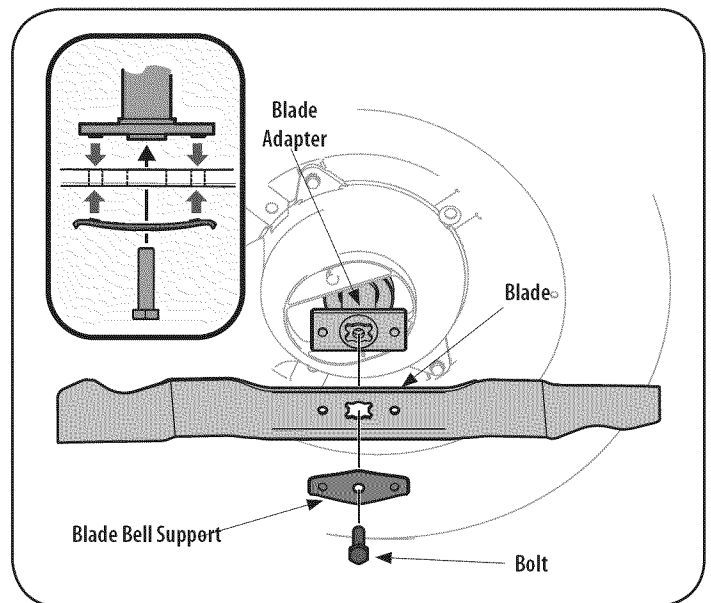

Figure 22
2. Remove the bolt and the blade bell support which hold the blade and the blade adapter to the engine crankshaft. See Figure 22.
5. Lubricate the engine crankshaft and the inner surface of the blade adapter with light oil. Slide the blade adapter onto the engine crankshaft. Place the blade on the adapter such that the side of the blade marked "Bottom" (or with part number) faces the ground when the mower is in the operating position. Make sure that the blade is aligned and seated on the blade adapter flanges. See Figure 22 inset.